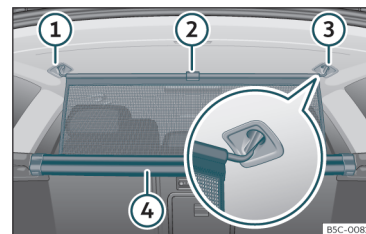

Fig. 121 In the luggage compartment: securing the net partition.
- Pull up handle » Fig. 121 ② to remove the net from the casing ④.
- Hook in the net partition on the right or left side ③ (magnified image).
- Hook in the net partition into the housing on the other side ① by pulling the rod.